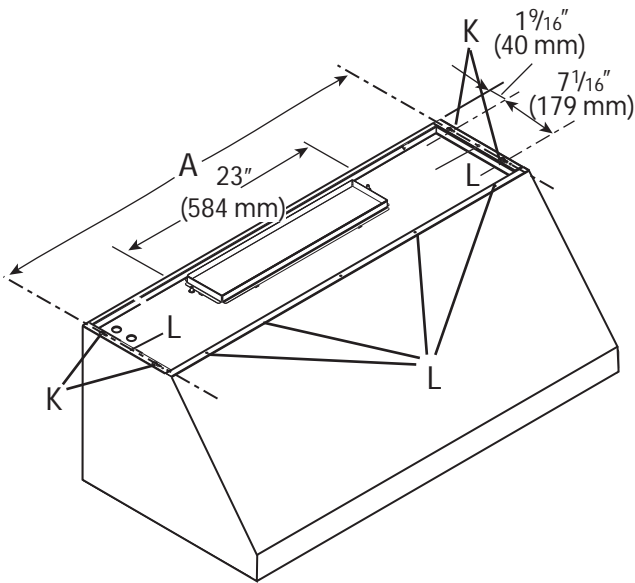
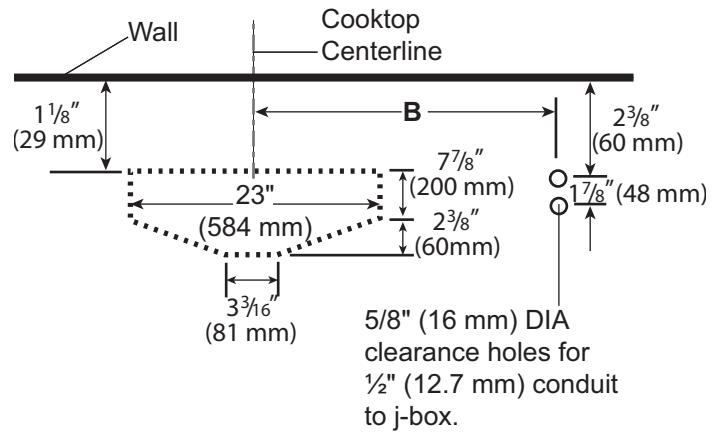

Figure 15: Tap Hole and Screw Hole Locations
Figure 16: Transition and Conduit Locations
Figure 15 shows the (4) screw holes labeled “K” used for mounting the hood to the bottom of the cabinet. Make sure both knockouts have been removed.
1. In the base of the cabinet, drill 1/8" (3 mm) tap holes as indicated in Dimension A in Figure 15 and in Table 2.
2. Screw in (4) 1" (25 mm) screws (provided with hood) leaving 1/4" (6 mm) exposed to hang hood on.
3. If the hood is installed for vertical discharge, refer to Figure 16 to create clearance holes for passage of the transition and conduit. Refer to Dimension B in Figure 16 and Table 2.
6. From inside of hood, insert screws supplied. Drill through holes, use 5/8" (16 mm) screws supplied, (1) on each side and (4) along the front, into bottom of the cabinet. See screw holes labeled "L" in Figure 15.